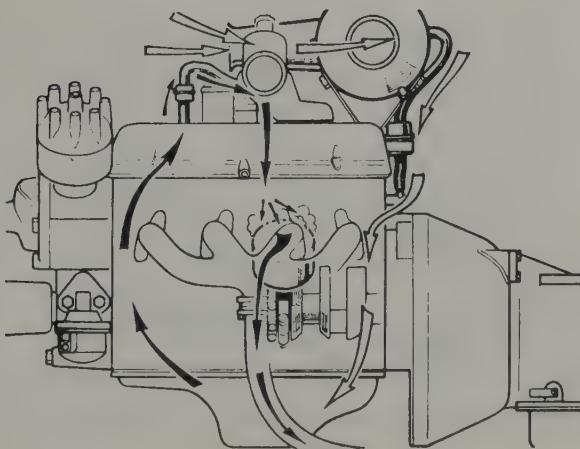

Fig. 3.60. Crankcase emission control system
- 3 The breathing cycle is illustrated in Fig.3.60. Clean air is taken from the rear end of the air cleaner and fed through the engine breather filter into the rear of the crankcase. Crankcase fumes rise via the pushrod tubes into the rocker cover space. From here the fumes are drawn through the flame traps into the carburettor intake adapters and so into the normal engine combustion cycle; they are burned with the fuel and exhausted through the exhaust system.